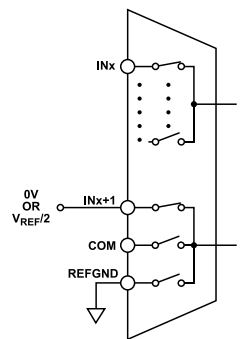

Figure 70. Even- and Odd-Channel Paired
- ▶ Figure 70, even numbered input paired with the next highest odd numbered input (for example, IN0 with IN1, IN2 with IN3, and so on).